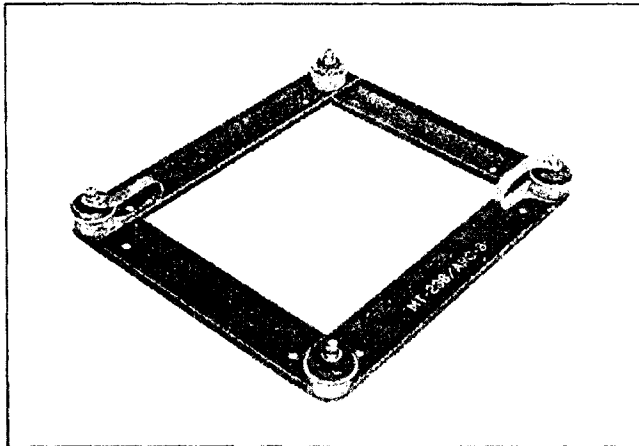

Figure 5. Power Junction Box Mount MT-236/ARC-3
(4) POWER JUNCTION BOX.—Power Junction Box J-68/ARC-3 is mounted with four snap-slide fasteners. Align the four holes in the base of the power junction box with the four studs on the Mount MT-236/ARC-3. (See fig. 5.) Lower onto the mount and snap